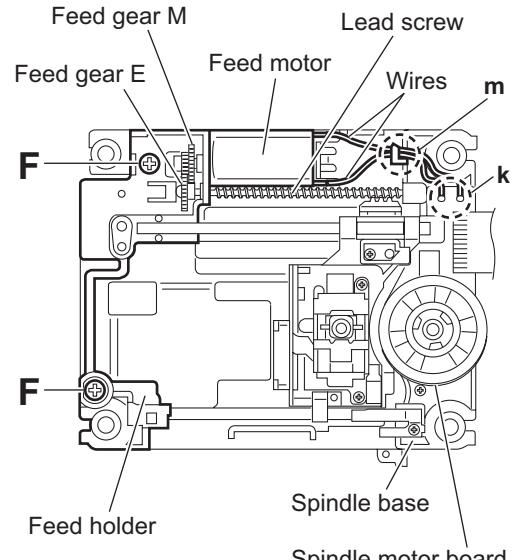

Fig.11
- (3) Remove the wires from the soldered section **k** on the spindle motor board. (See Fig.11.)
When attaching the feed motor, pass the wire through the section **m** on the spindle base. (See Fig.11.)
- (4) Remove the feed holder, feed motor, lead screw, feed gear **E** and feed gear **M** at the same time after removing the two screws **F** attaching the feed holder. (See Fig.11.)
(See Figs.11 and 13)
- (1) From the top side of the traverse mechanism assembly, remove the wires from the soldered section **k** on the spindle motor board. (See Fig.11.)